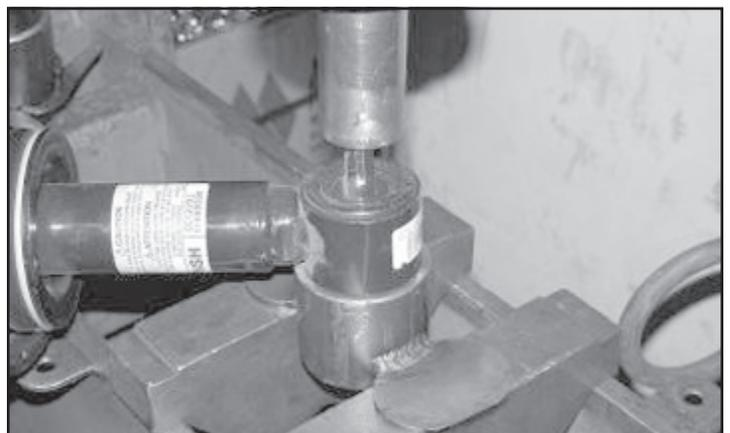

**FIGURE 30 - STEP 26**
26. Locate FT20304 Skid Plate and the supplied 1/2" x 1-1/4" hardware and attach the rear of the skid plate to the bottom of the rear crossmember. Use the supplied 7/16" x 1 1/4" hardware and attach the front of the skid plate to the front crossmember **(MAKE SURE THAT THE DIFF IS CLEARANCED ENOUGH TO CLEAR THE SKID PLATE).** **SEE FIGURE 30**